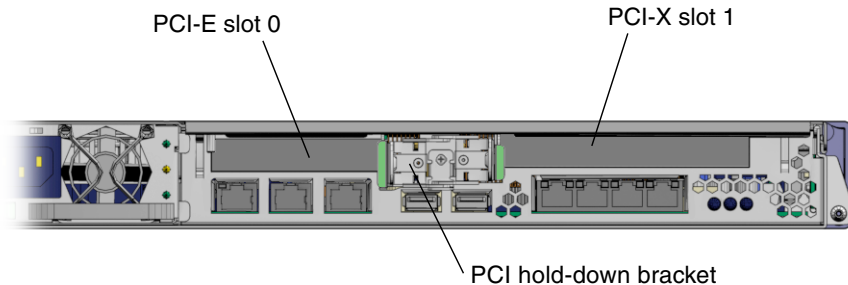
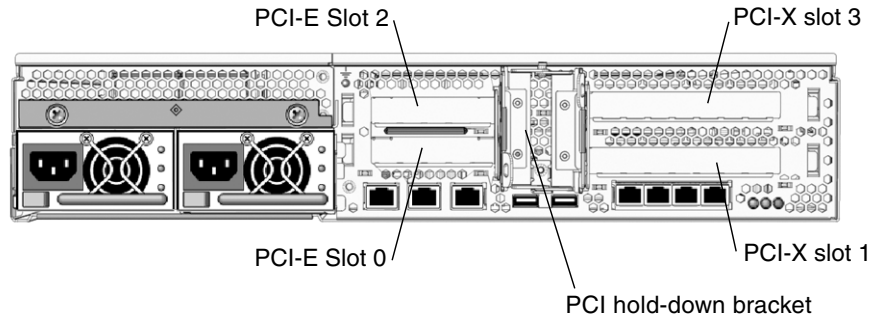

FIGURE 3-9 Location of PCI-E and PCI-X Slots, and PCI Hold-Down Bracket – Sun Fire V215
FIGURE 3-10 Location of PCI-E and PCI-X Slots, and PCI Hold-Down Bracket – Sun Fire V245
To locate the PCI card slots, refer to FIGURE 3-9 and FIGURE 3-10.
6. Release the PCI hold-down bracket (FIGURE 3-9) or (FIGURE 3-10).
2. Locate the proper PCI slot for the card you are replacing (FIGURE 3-9) or (FIGURE 3-10).